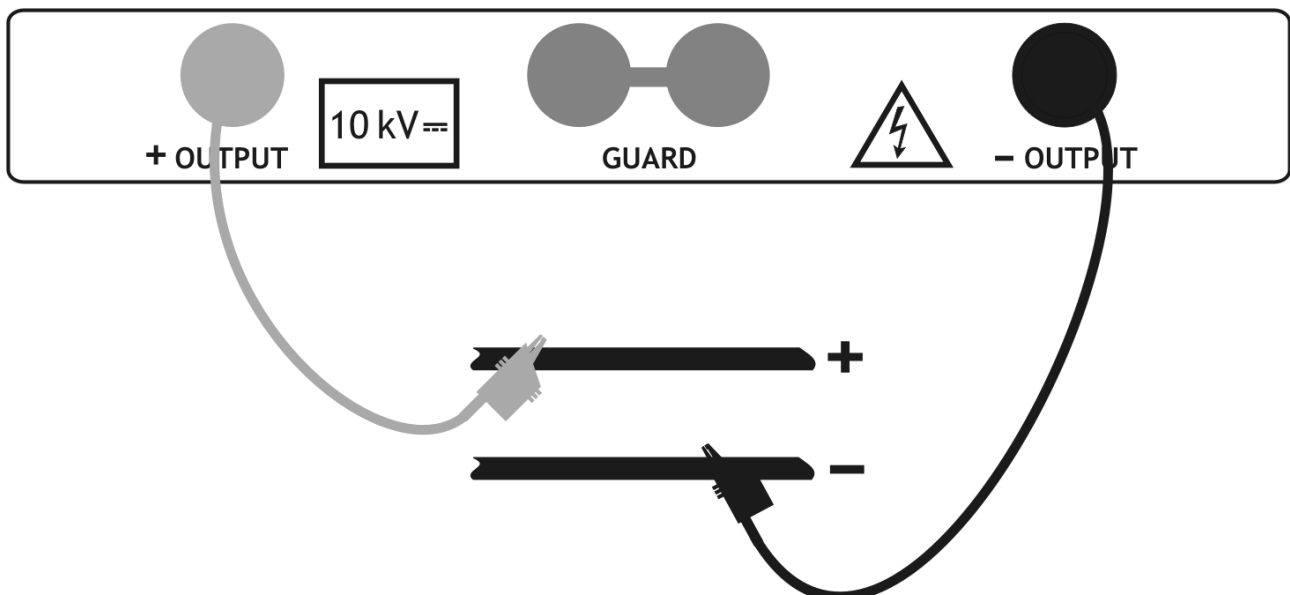

Fig. 15: Connection of meter for voltage measurement
4. Connect the tip of Test lead 1 or Test leads 2 (positive) and the black cable of Test leads 2 (negative) to the object on test respect the polarities for DC voltage measurement (see Fig. 15)